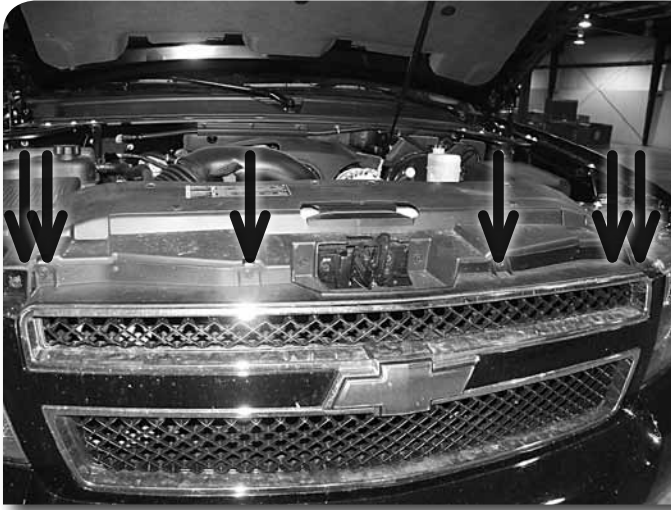

Figure 2
8. Remove 6 bolts at the top of the grill indicated in Figure 2.